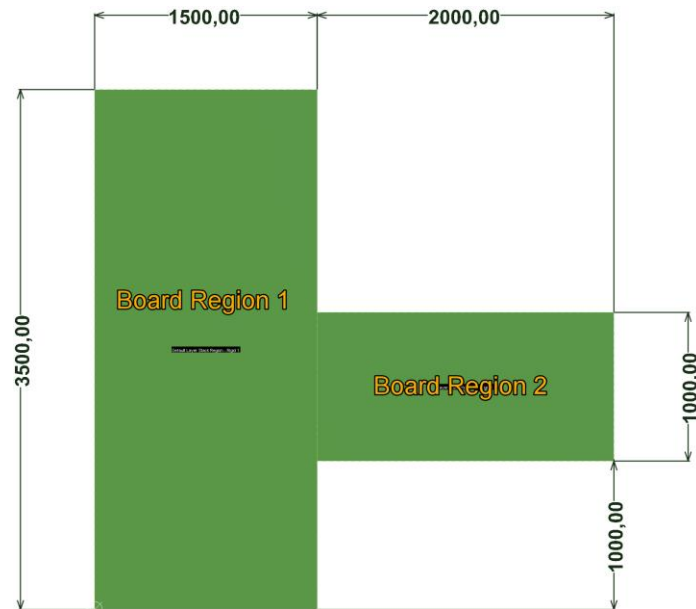

Figure 3. Defining the second Board Region
9. Use the command **Place » Board Region** to create a second board region with the dimension 2000mil x 1000mils as seen in Figure 3